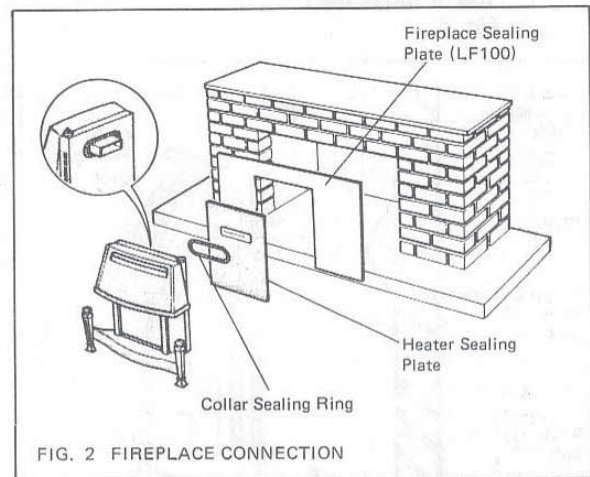

FIG. 2 FIREPLACE CONNECTION
2.3.1.2. CONNECTION TO A FIREPLACE (FACE SEALING METHOD) (fig 2)